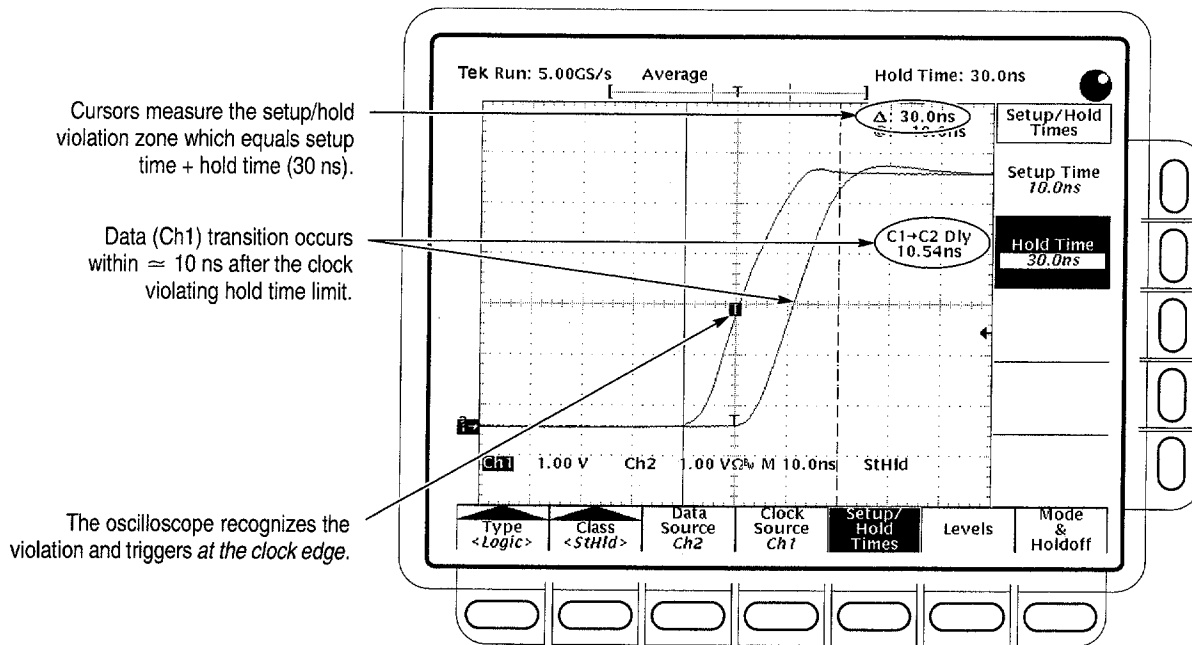

Figure 3-48: Triggering on a Setup/Hold Time Violation
1. Press **TRIGGER MENU** → **Type** (main) → **Logic** (pop-up) → **Class** (main) → **Setup/Hold** (pop-up) → **Set/Hold Times** (main) → **Setup Time** or **Hold Time** (side). See Figure 3-48.